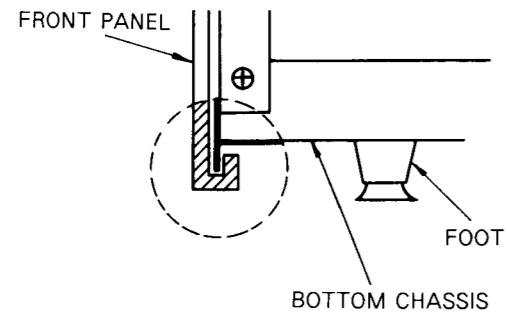
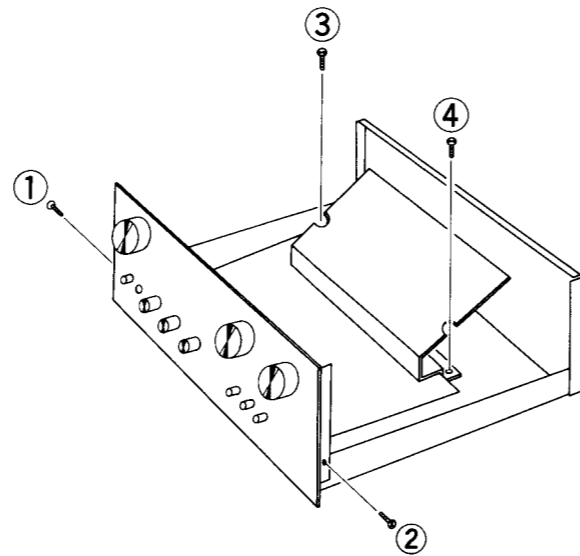

Fig. 4
Fig. 3
- (1) Remove the cabinet.
- (2) Loosen two screws ① and ② holding the front panel.
- (3) Loosen two screws ③ and ④ holding the heat sink as shown in fig. 3.
- (4) Remove the P.C.B. with panel.
- (5) When installing the front panel, insert the bottom chassis into groove of panel, and tighten screws after checking to fit the headphone jack and push switch button to hole of panel as shown in fig. 4.